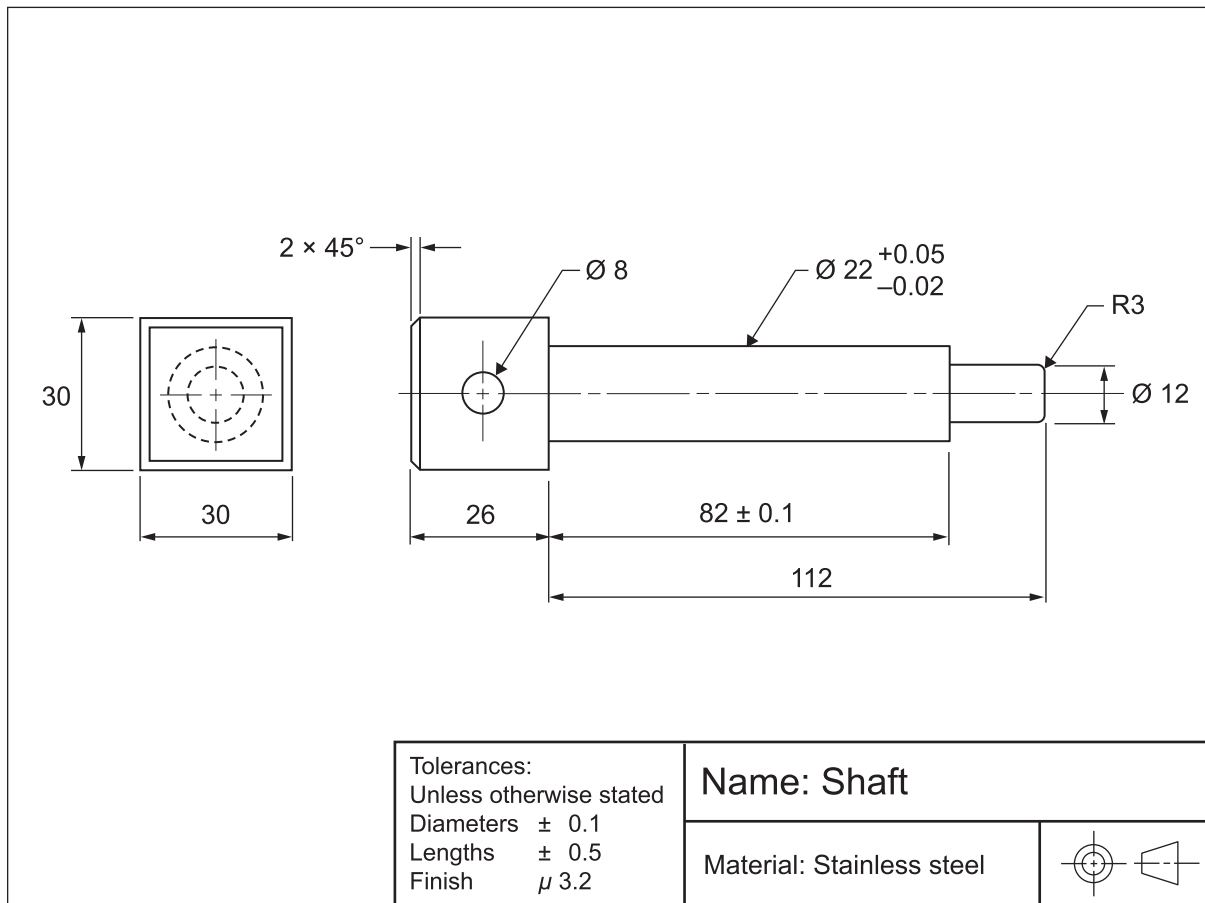

Figure 12
Figure 12 shows a drawing of a shaft.
- c.** Draw an arrow on Figure 12 to show the datum line. 1 mark